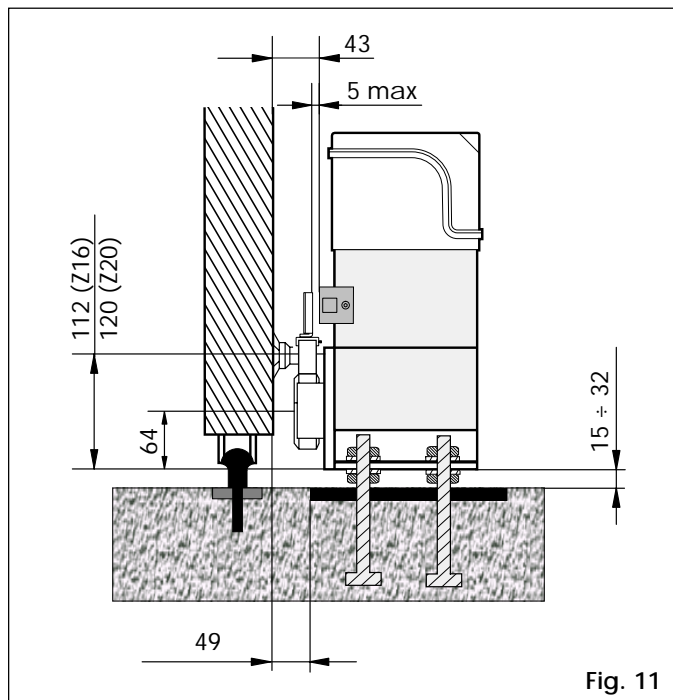

Fig. 11
- 4) Adjust the height of the feet and the distance from the gate as shown in Fig. 11.
- The distance between the limit switch and the travel stop plate must be  $\leq 5\text{mm}$  (Fig.11).